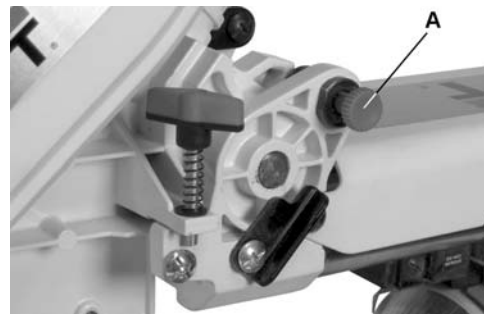

Figure 2
2. Pull out the *hold-down latch* (A, Fig. 2).
2. Press the *hold-down latch* (A, Fig. 2) in to lock.